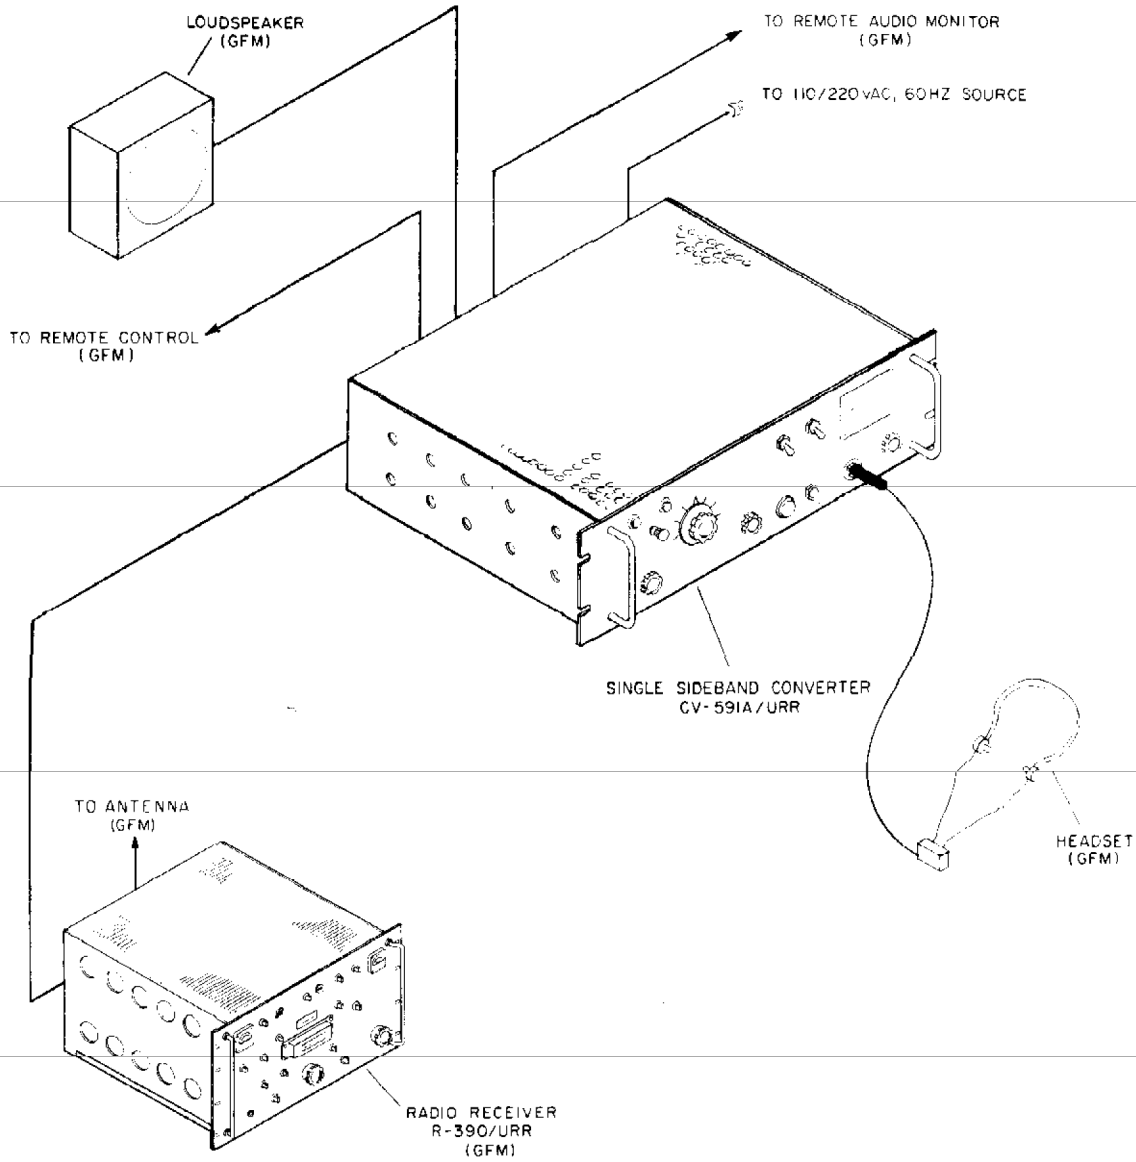

Figure 1-1. Single Sideband Converter CV-591A/URR, Typical Receiving System Interconnection
1.1.1 Single Sideband Converter CV-591A/URR (figure 1-1) operates in conjunction with a compatible 455-kHz IF frequency AM receiver to extract intelligence from any upper sideband (USB), lower sideband (LSB), frequency shift (FS), amplitude modulated (AM), continuous wave (CW), or modulated continuous wave (MCW) input signal. The converter can be operated locally or controlled from a remote control, and is normally used with an R-390A/URR receiver.